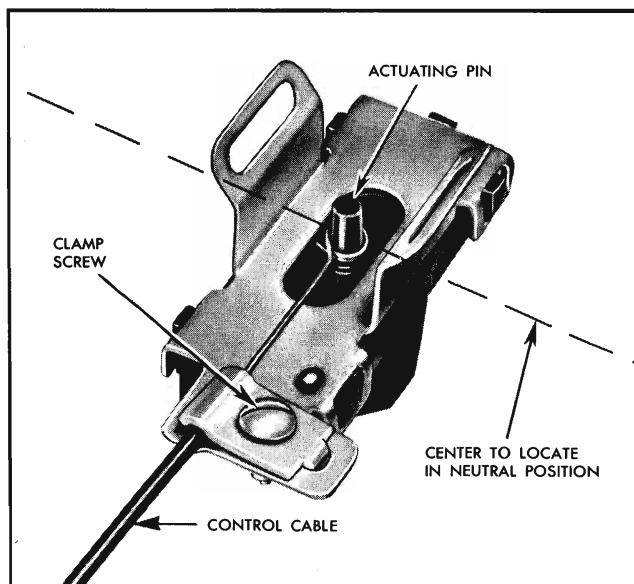

Fig. 11-71 Control Cable Wire
4. Loosen screw and remove control cable assembly from switch (Fig. 11-71).
6. Move carrier in switch to neutral position (Fig. 11-71).